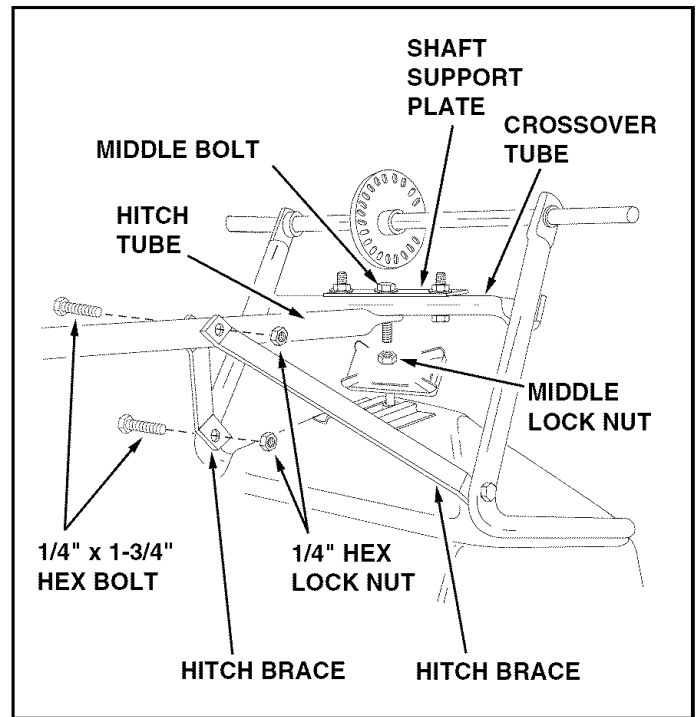

FIGURE 2
- Assemble the two hitch braces to the inside of the hopper frame using a 1/4" x 1-3/4" hex bolt and 1/4" hex lock nut on each side. **DO NOT TIGHTEN YET.** See figure 2.
- Remove the lock nut from the middle bolt in the crossover tube and shaft support plate. Leave the bolt in place. See figure 2.
- Assemble the hitch tube onto the middle bolt and secure it with the same lock nut you removed. **DO NOT TIGHTEN YET.** See figure 2.
- Assemble the two hitch braces to the hitch tube using a 1/4" x 1-3/4" hex bolt and a 1/4" hex lock nut. **DO NOT TIGHTEN YET.** See figure 2.